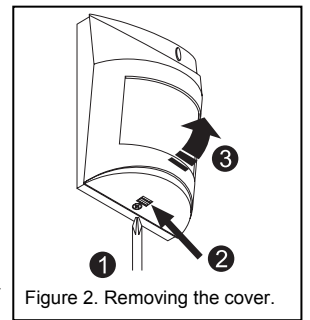

Figure 2. Removing the cover.
1. Open the housing as shown on Fig. 2 and disconnect the LED backlight from its socket on electronics board.